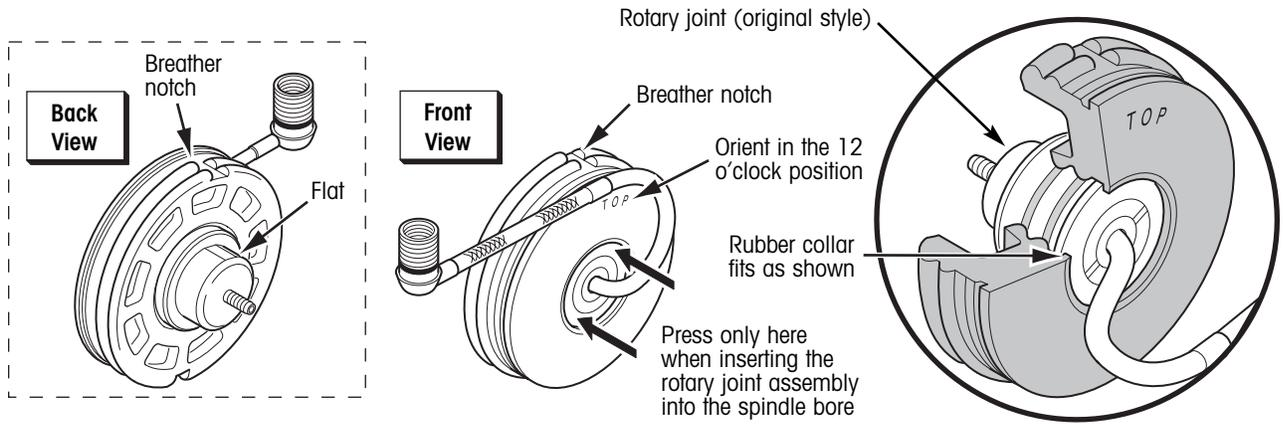

Figure 10. Original style rotary joint assembly
1. If necessary, install the rotary joint in the rubber collar. Align the breather notch in the rubber collar with the flat on the rotary joint (figure 10).
**⚠ CAUTION:** When inserting the rotary joint assembly into the spindle bore in the next step, do not push on the steel air tube. Carefully push only on the face of the rotary joint where it meets the rubber collar (figure 10).